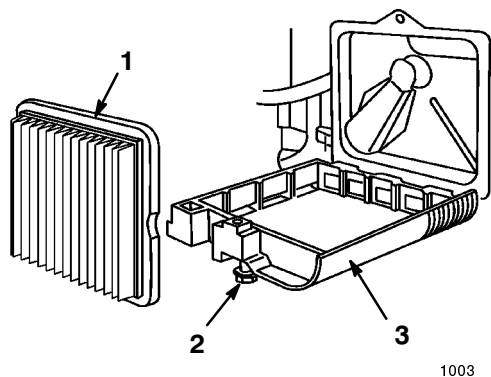

Figure 17
3. Loosen the screw that secures the air cleaner cover (Fig. 17).
4. Tilt the cover down and clean it thoroughly (Fig. 17).
5. Remove the paper air filter and discard it (Fig. 17).
6. Insert a new paper air cleaner filter (Fig. 17).